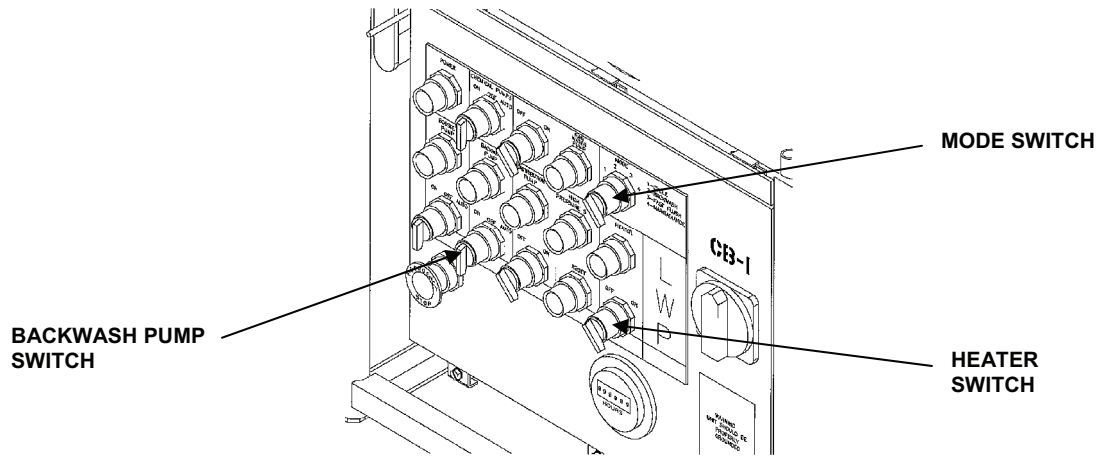

Figure 4. Control Module.
12. Turn HEATER switch to the ON position on the control module. See Figure 4.